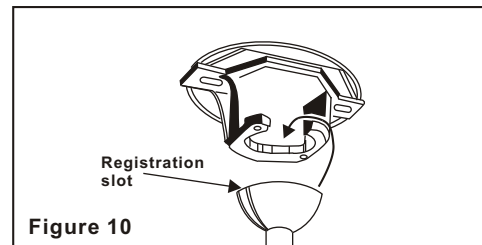

Figure 10
Step 6. Now lift motor assembly into position and place hanger ball into hanger bracket. Rotate until the check groove has dropped into the registration slot and seats firmly. (Fig. 10) Rod should not rotate if this is done correctly.